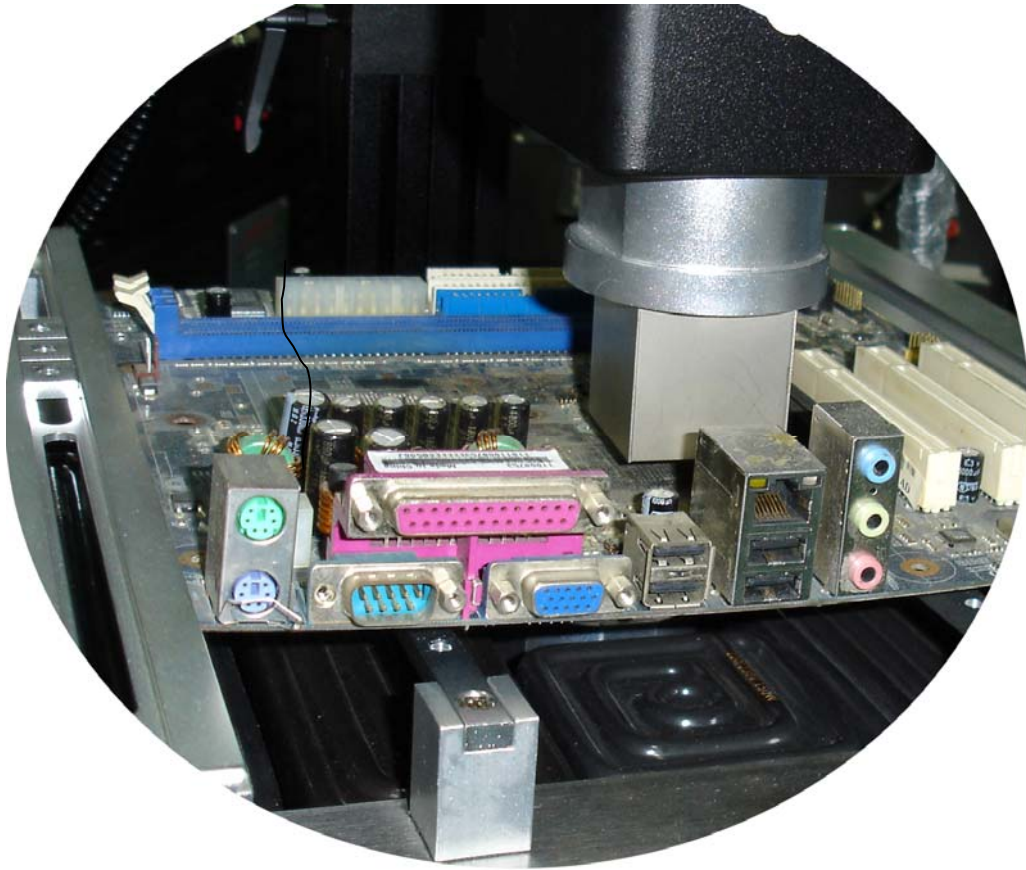
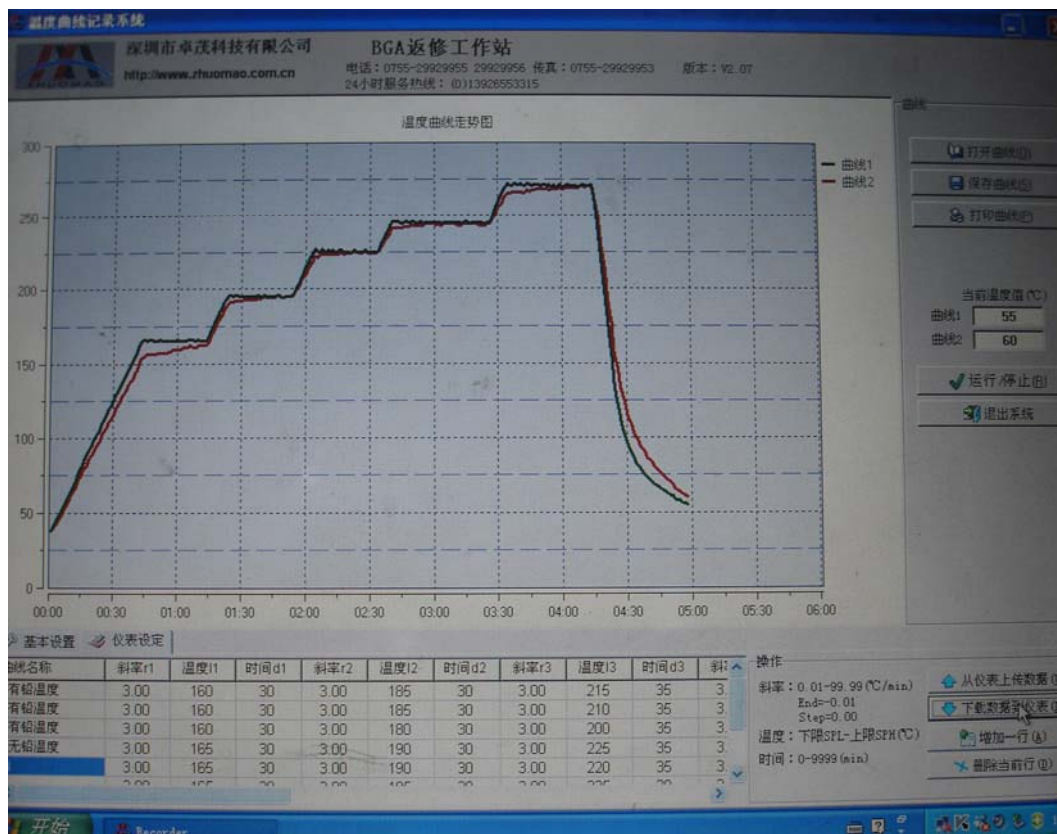

Figure 8
Figure 9
- (7)、Fix the PCB board on the PCB pallet, and make the heating part just below the nozzle.
- (8)、Adjust Z-axis and Y-axis to make the nozzle on the top of the heating part, the height between them is 2~5mm.(Figure 8)
- (9)、Click “Run/Stop”, the machine will carry out heating motion.
- (10)、At this time you can see the temperature curve.(Figure 9)
- (11)、Curve 1 (Green) shows: The actual measurement of heater temperature
- (12)、Curve 2 (Red) shows: The actual measurement of external galvanic
- (13)、After heating, it will automatically run cooling system; It will reduce the deformation of the PCB board, shorten the work cycle and improve the work efficiency through cooling.
- (14)、During the process of heating, Click“Run/Stop”, or click “Stop” on the control panel, heating process will be stop.
- (15)、Click "Exit System" button, the computer will quit the application programmer.